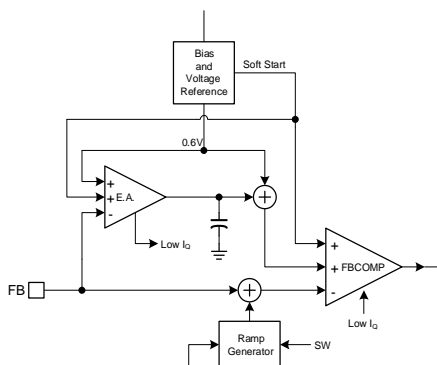

Figure 2: Operation Blocks in Sleep Mode
The MP2192 features sleep mode to achieve high efficiency at extremely light loads. In sleep mode, most of the circuit blocks are turned off except for the error amplifier (EA) and PWM comparator. This reduces the operation current to a minimal value (see Figure 2).